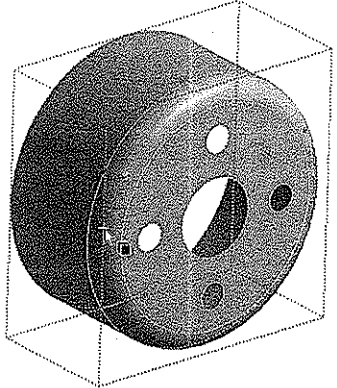

Figure 10-43 The part selected in the Graphics screen
- 13. Select the model in the Graphics screen, as shown in Figure 10-43.